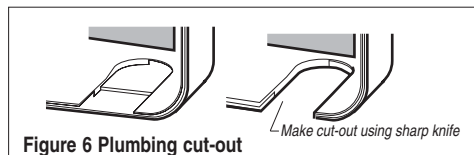

Figure 6 Plumbing cut-out
5.9 Plumbing entry can be from the rear (preferred) or from the bottom. The backplate has a cut out position to suit 15mm pipe. When opting for bottom entry make cut out before fitting backplate to the wall - see Fig. 6.